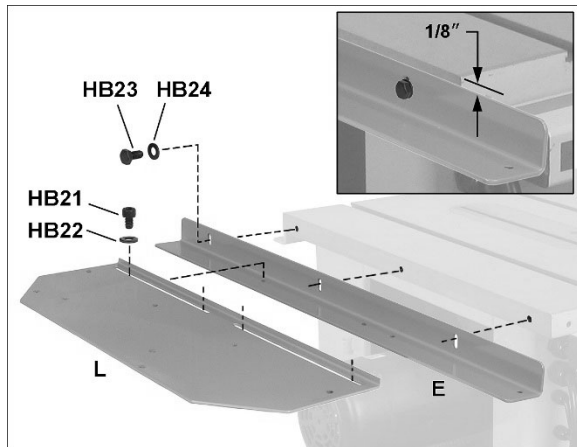

Figure 7-3
1. Install mounting bracket (E, Figure 7-3) to saw table, as shown. Position bracket about 1/8-inch from top edge of table (see inset, Figure 7-3); this may be adjusted later. Tighten screws.
2. Install adjustment plate (L, Figure 7-3) to the bracket, using fasteners shown.